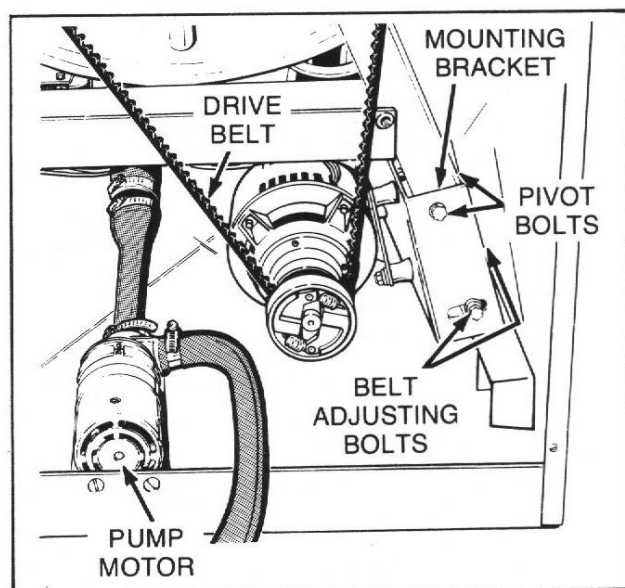

Figure 43
- Loosen four bolts holding motor mounting bracket to rear tub support, *Figure 43*.
- After proper belt tension has been obtained, tighten belt adjusting bolts securely, then tighten pivot bolts, *Figure 43*.